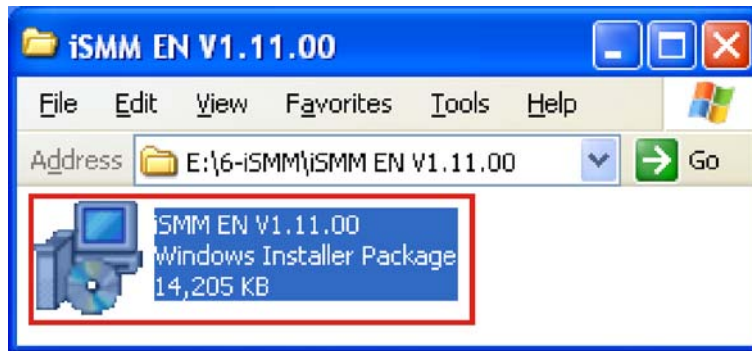

Figure 7-30: iSMM Installation File
Step 5: The contents of the directory are displayed. (Figure 7-30)
Step 6: Double click the iSMM EN V1.11.00 setup file. (Figure 7-30)